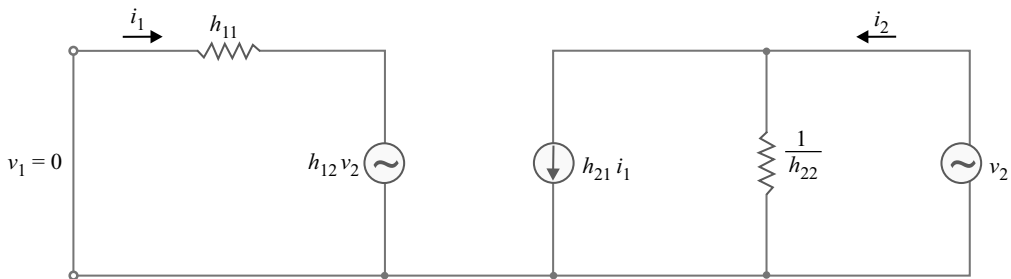

Fig. 22.8
**(iv) Output impedance.** In order to find the output impedance, remove the load  $r_L$ , set the signal voltage  $v_1$  to zero and connect a generator of voltage  $v_2$  at the output terminals. Then  $h$  parameter equivalent circuit becomes as shown in Fig. 22.8. By definition, the output impedance  $Z_{out}$  is